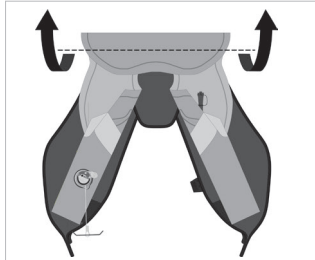

FIGURE 63
10. Create a concertina fold along fold line 10 (Fig 63).